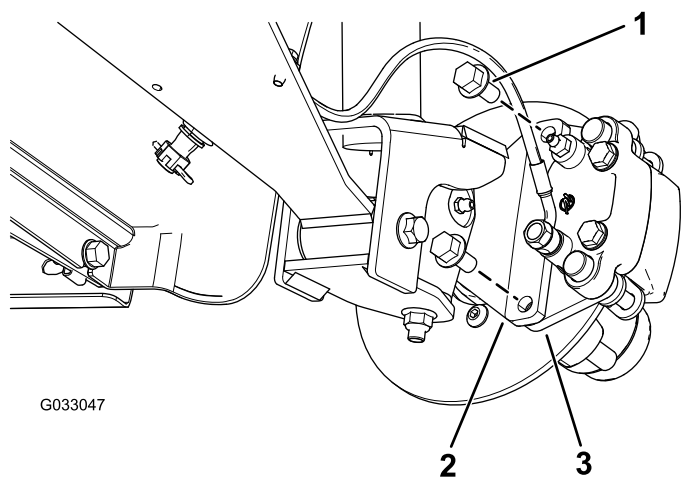

Figure 32
3. Remove the flange-head bolts (3/8 x 3/4 inch) that secure the bracket for the brake assembly to the spindle and separate the brake from the spindle (Figure 32).
2. Align the brake pads to either side of the rotor (Figure 32) and the holes in the caliper bracket with the holes in the brake mount of the spindle frame (Figure 36).
3. Secure the caliper bracket to the spindle frame (Figure 32) using the 2 flange-head bolts (3/8 x 3/4 inch).